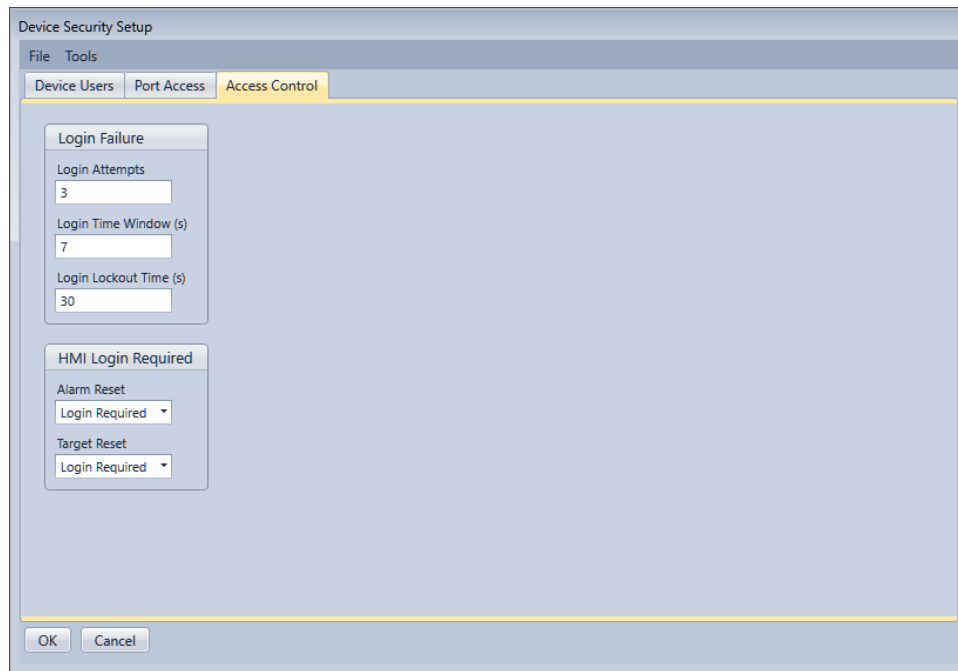

Figure 9-3. Access Control Screen
The BESTCOMSPi^{us} Access Control screen is illustrated in Figure 9-3.
1. Select the Access Control tab. See Figure 9-3.